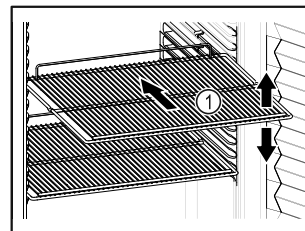

Fig. 60 Example illustration
- ❑ If storage surfaces Fig. 60 (1) are movable, adjust them according to height.